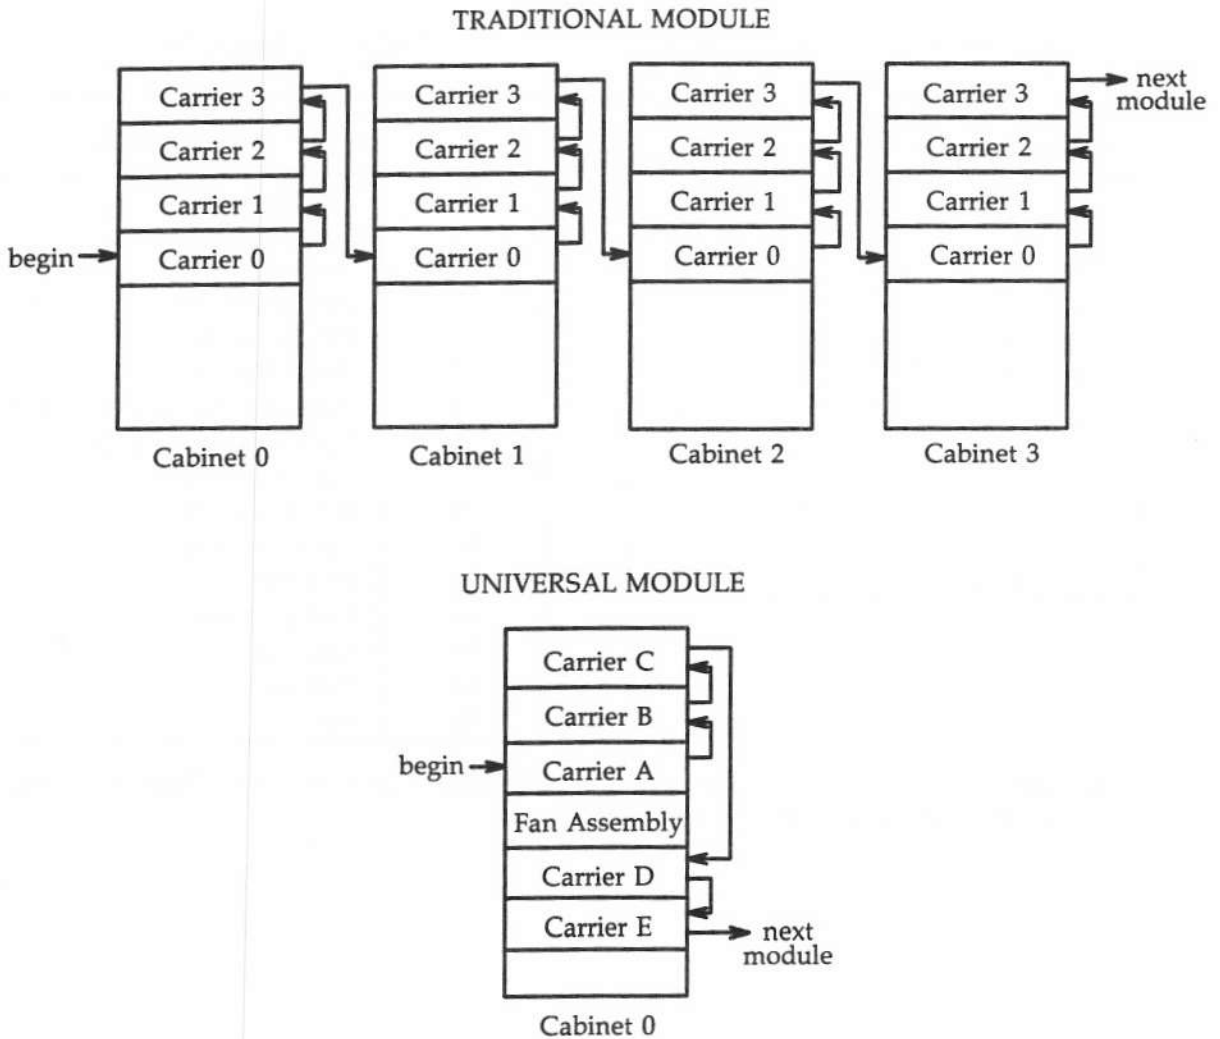

Figure 3. Stepping Through Carriers
8. Repeat step 7 until all the carriers in the switch are stepped through. Figure 3, on page 32, illustrates how carriers are stepped through.